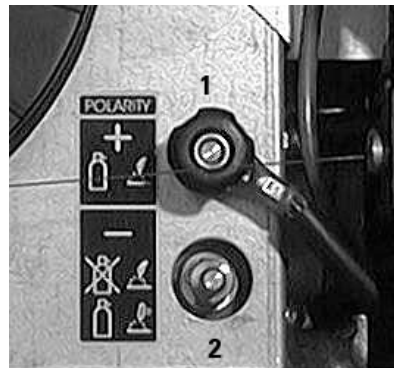

Figure 3
For most MIG welding applications using shielding gas, the polarity wire will be connected to the positive terminal (1) as shown. This would make the welding gun positive and the ground cable would be plugged into the negative output receptacle on the front of the welder (see Fig 3).
For most flux cored MIG welding and TIG welding, the polarity wire will be connected to the negative terminal (2). This will make the torch negative. The ground cable would be connected to the positive output receptacle on the front of the welder (see Fig 3).